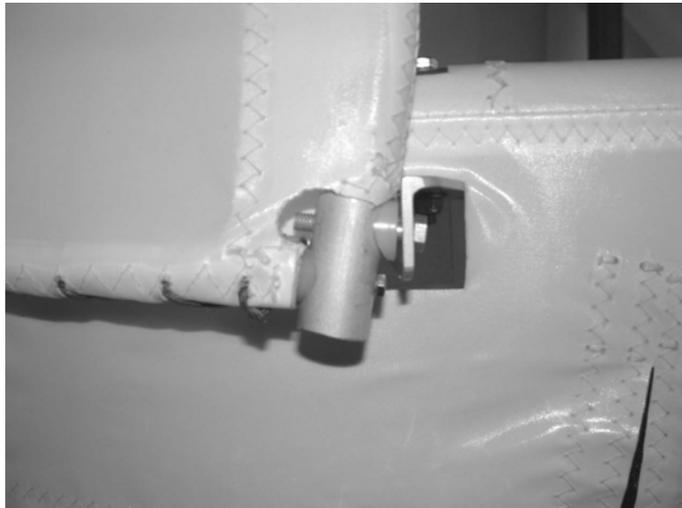

Figure 96; melted holes for access to tailplane forward mounting bolts.
- c) To make access to the nuts securing the tailplane halves use a soldering iron to cut-out small areas on the underside of the covering, Figure 96.